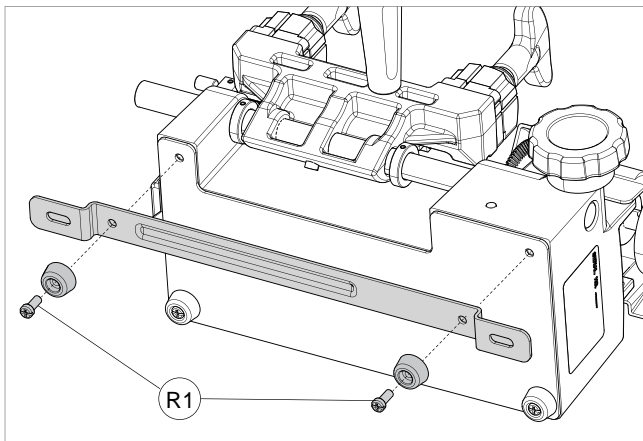

Fig. 11
- 2) Loosen and remove the 2 front screws (R1) with the feet (Fig. 11).